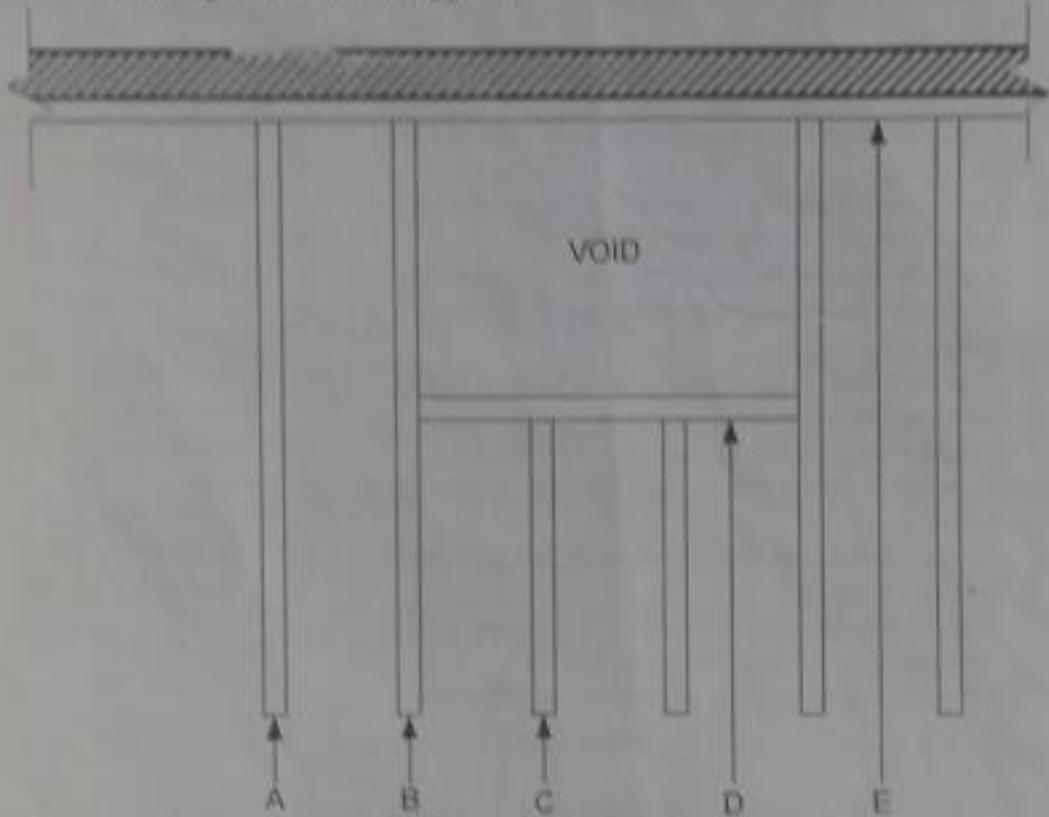

Figure 1
- (vii) Figure 1 is showing part of an opening through a timber floor. Which among the labeled joists is a trimming joist?